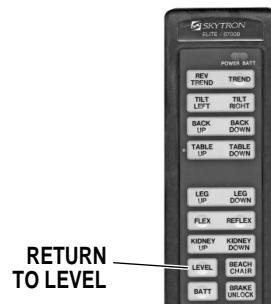

Figure 2-13. Return To Level
**i. Return To Level.** To return the table top to a level position, press the LEVEL button (figure 2-13).